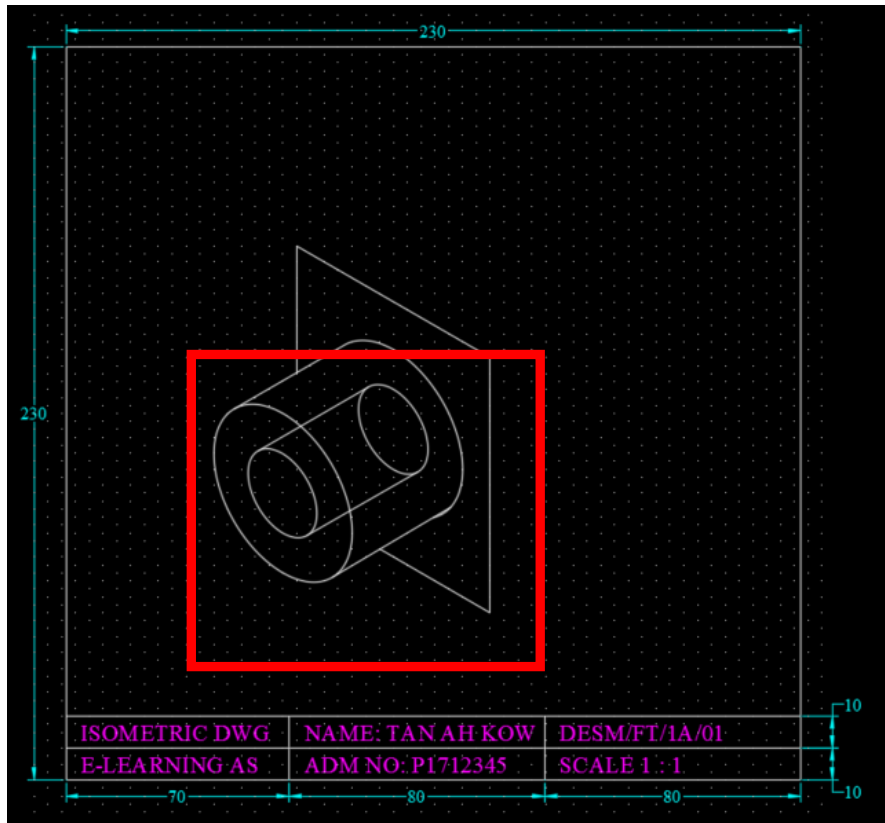

FIG 10
10. Trim off 2 lines and part of isometric circle as shown below(FIG 10):